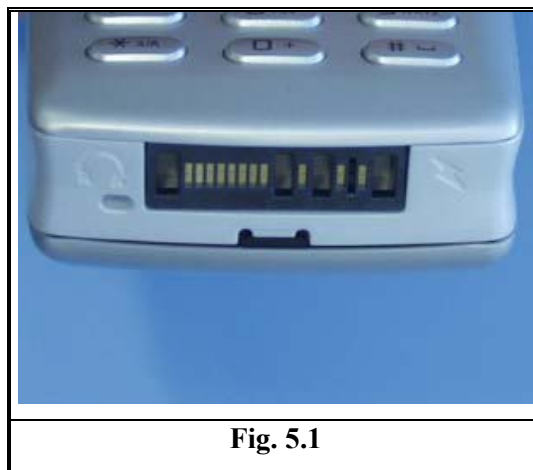

Fig. 5.1
- Check if the system connector (*Fig. 5.1*) is mechanically damaged, dirty or oxidized. Replace it if necessary.
- If there is a problem with the communication through the system connector, for example if it is not possible to synchronize with MS Outlook, check if the system connector (*Fig. 5.1*) is mechanically damaged, dirty or oxidized. Replace it if necessary.